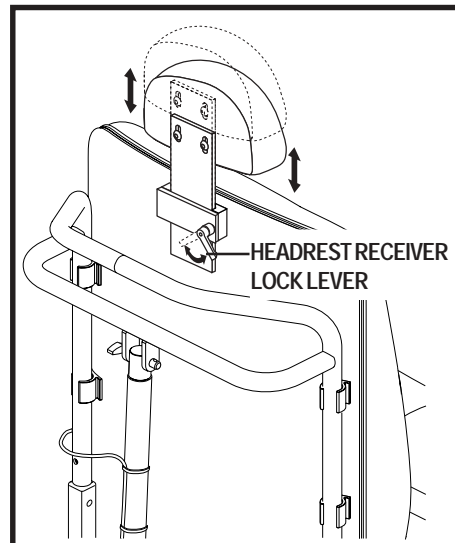

Figure 13. Euro-style Headrest Height Adjustment
1. Loosen the headrest receiver lock lever. See figure 13.